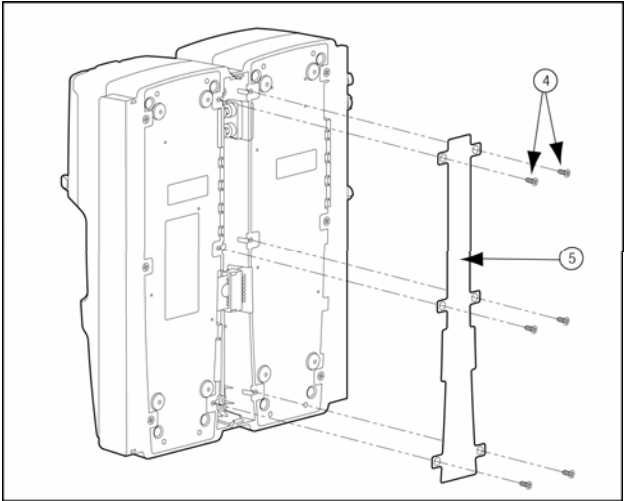

Figure 3. Attaching the Bottom Cover Plate
6. A bottom cover plate must be attached to connect every two chargers together to ensure stability of the units. Refer to Figure 3. Use six Phillips flat-head screws for each bottom cover plate.